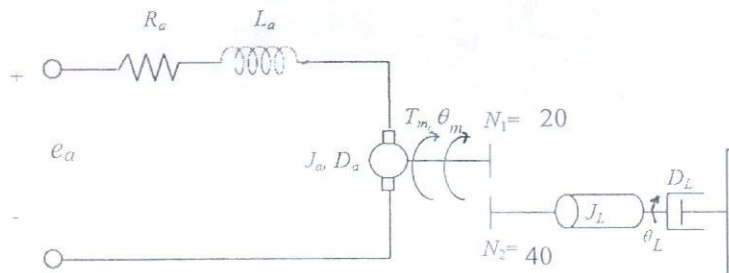

Figure 4: An electromechanical circuit
- b) A DC motor develops 40Nm of torque at a speed of 100rad/s when applied with a 5 volts of input voltage. The motor stalls with 80Nm of torque. Figure 4 shows a schematic diagram of the motor-load configuration. Solve for the transfer function $G(s) = \frac{\theta_L(s)}{E_a(s)}$. Given: